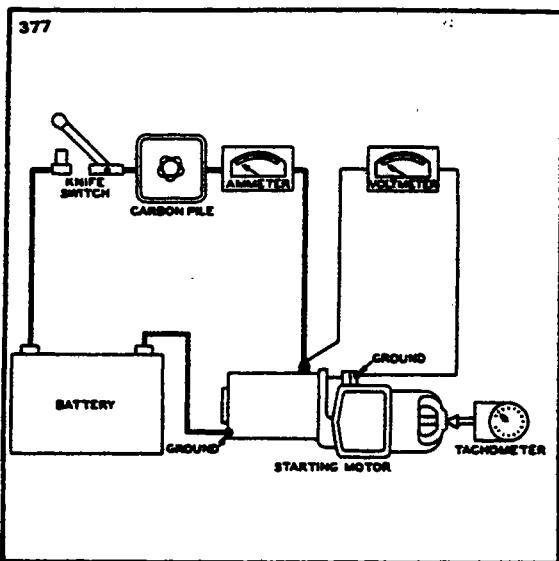

Figure 11-51. No-Load
a. After the starting motor is reassembled, it should be tested to see that the no-load current at a certain voltage is within specifications as given in paragraph 11-108. To make this test, connect as shown in Figure 11-51. If current is too high, check the bearing alignment and end play to make sure there is no binding or interference. Two or three sharp raps on the frame with a rawhide hammer will often help to align the bearings and free the armature.